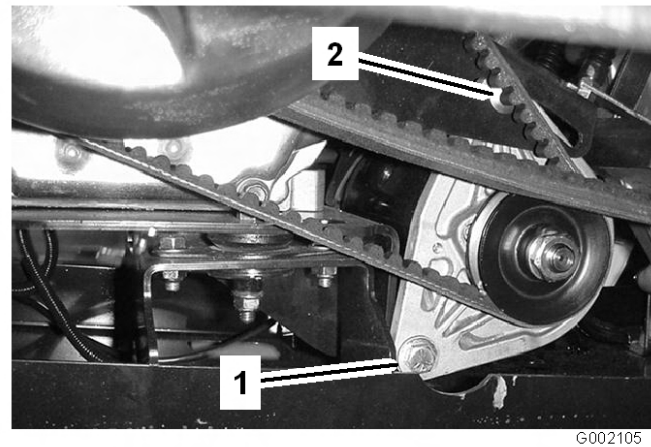

Figure 53
2. Loosen the starter generator pivot bolt (Figure 53).
3. Wedge a pry bar between the engine mount and starter. Loosen the nut on the adjusting carriage bolt (Figure 53).
5. Tighten the carriage bolt nut and remove the pry bar. Tighten the starter generator pivot bolt (Figure 53).